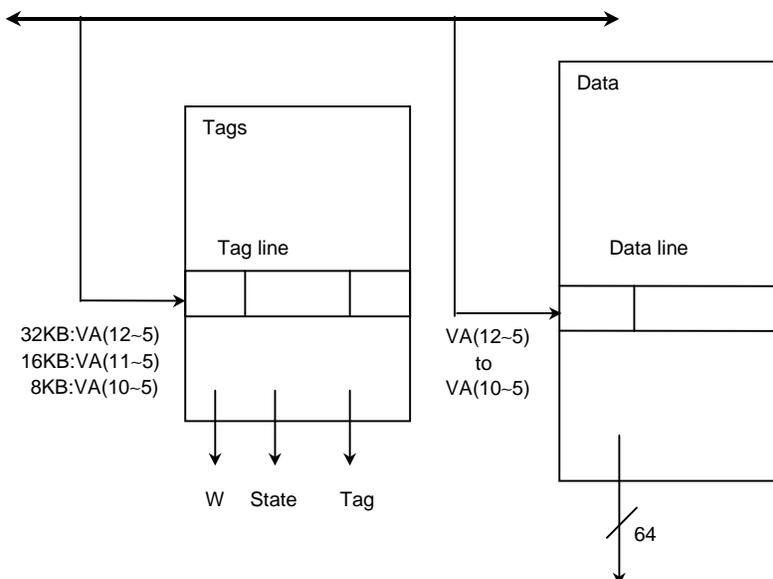

Figure 9-1 Primary Cache Data and Tag Organization
Figure 9-1 shows the virtual address (VA) index to the primary cache. Each instruction and data cache size is 8KB, 16KB or 32KB. The virtual address bits be used to index into the primary cache decided by the cache size.